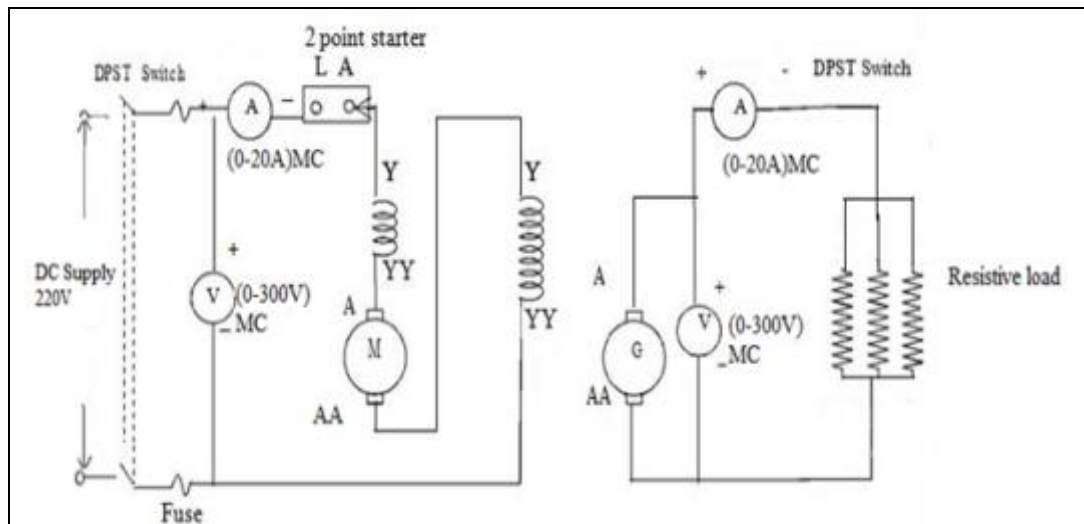

Figure 6 - Identical DC Shunt Machines
1. Calculate the efficiency of both dc series machines if the armature resistance of each machine is 2 ohms in figure 6.